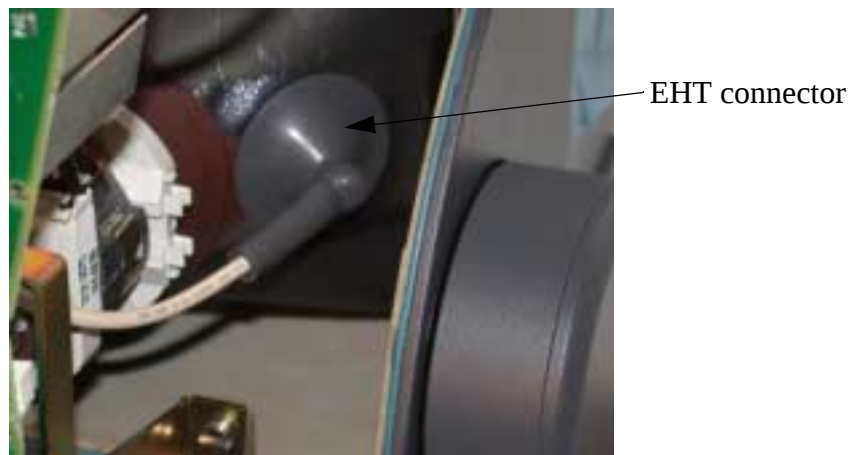

Figure 1.7 : EHT connector
- Disconnect the EHT connector from the CRT (figure 1.7).